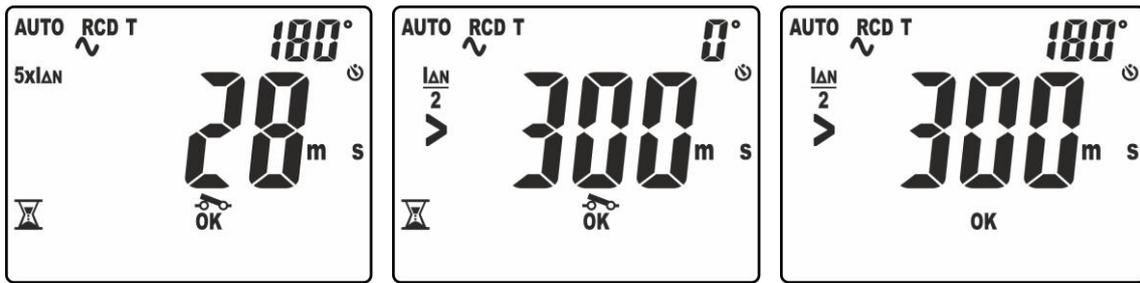

Fig. 33: Tripping time in AUTO mode – Screen 2
13. The fourth test carried out is the one with test current $5xI_{\Delta n}$ and polarity 180° . The result of partial measurement is shown on the display with indication “OK” or “NOT OK” (see Fig. 33 – right side). Symbol “” flashing indicates that the RCD must be reset.
14. The fifth test carried out is the one with test current $\frac{1}{2}I_{\Delta n}$ and polarity 0° . The result of partial measurement is shown on the display with indication “OK” or “NOT OK” (see Fig. 33 – middle). Message “>300ms” indicates that the full scale of the instrument has been reached, to indicate that the RCD correctly did not trip in this situation. Symbol “” flashing indicates that the RCD must be reset.
15. The sixth and last test carried out is the one with test current $\frac{1}{2}I_{\Delta n}$ and polarity 180° . The result of partial measurement is shown on the display (see Fig. 33 – right side). Message “>300ms” indicates that the full scale of the instrument has been reached, to indicate that the RCD correctly did not trip in this situation. Indication “OK” or “NOT OK” indicates in this case also the final result of the test